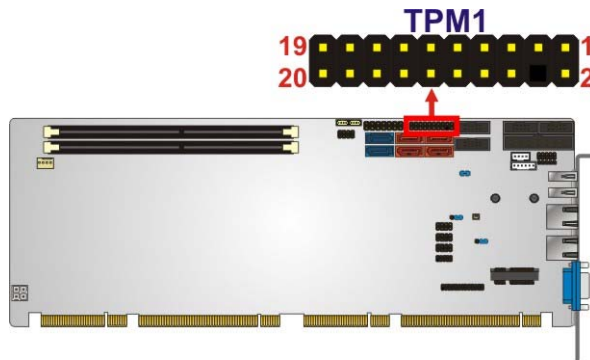

Figure 3-21: TPM Connector Location
- CN Location:** See Figure 3-21